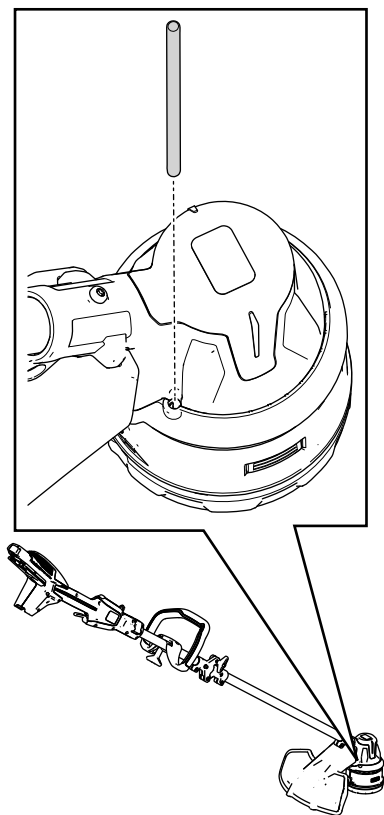

Figure 16
2. Insert a small-diameter tool (such as a screwdriver) through the motor housing and into the groove in the fan to secure the trimmer head so it does not freely rotate (Figure 16).